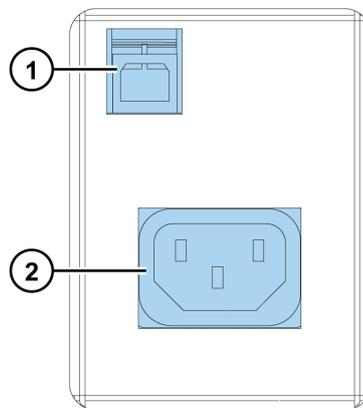

Figure 3–33 Connecting the mains supply cable
1. Connect the mains supply cable to the mains power supply connector (Figure 3–33) on the back panel. If you need to use any other type of mains supply cable than supplied, use only cables certified by the local authorities.